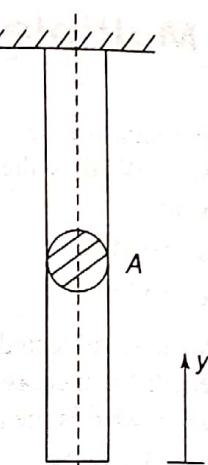

Figure 19.20
4. A cylindrical bar of length L , area of cross-section A is fixed at top end. Write down Airy's stress function for stress due to self weight in bar, if w is the weight density of the bar (Fig. 19.20).